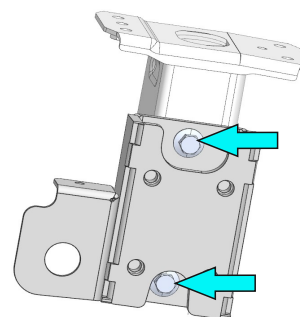

Fig.4
4. Install recovery point bracket (item I) on the left side of the vehicle and fix using OE bolts as shown in fig.4.